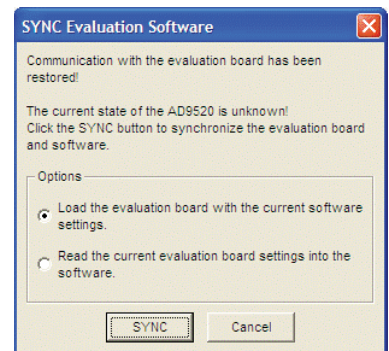

Figure 2. SYNC Evaluation Software Window
5. If you connect the evaluation board while the evaluation board software is running, the window shown in Figure 2 usually appears to prompt you to load the evaluation board with the evaluation board software settings or to read the current evaluation board settings into the software.